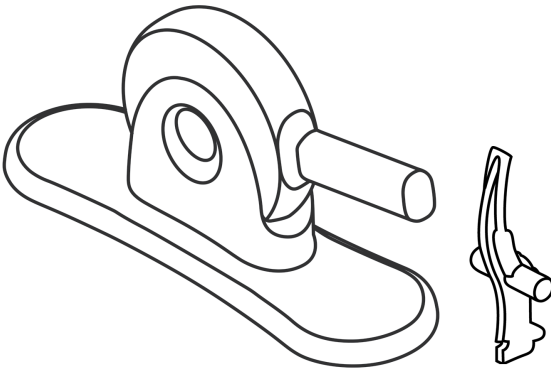

Figure 5: Edwards Crimper and 2-piece Crimp Stopper
- **Edwards Crimper and Crimp Stopper (Figure 5)**